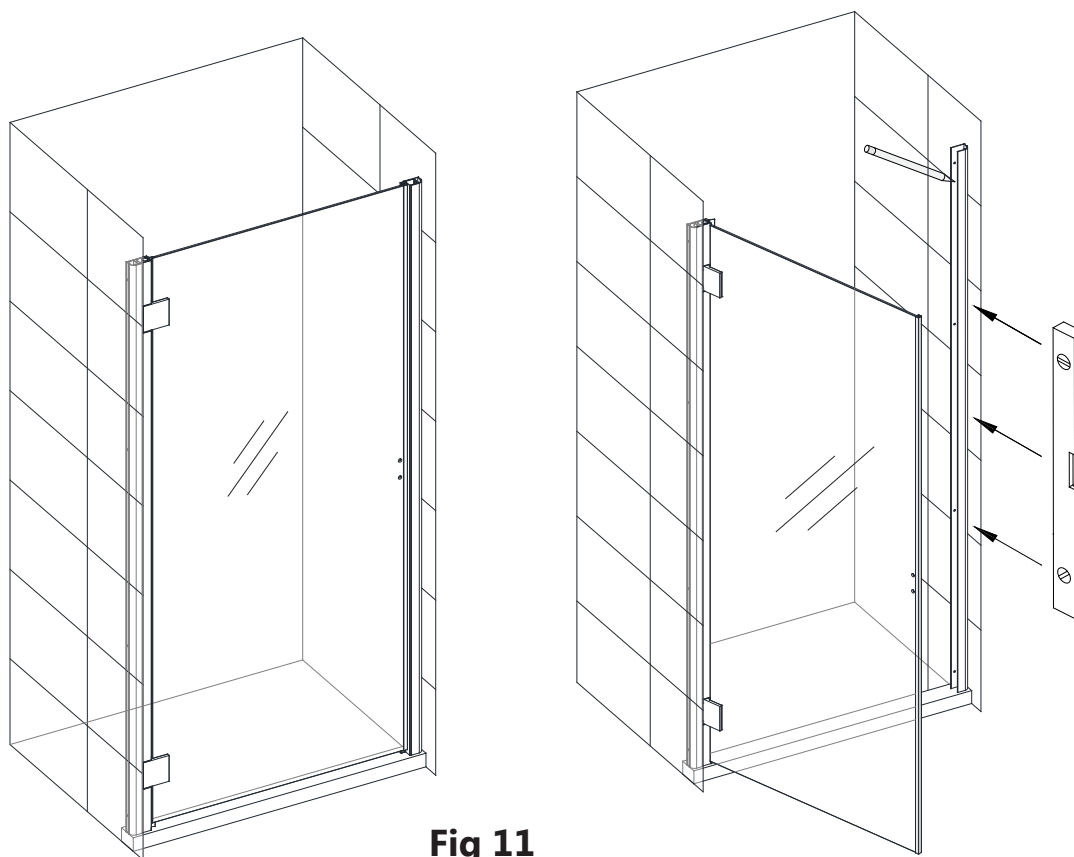
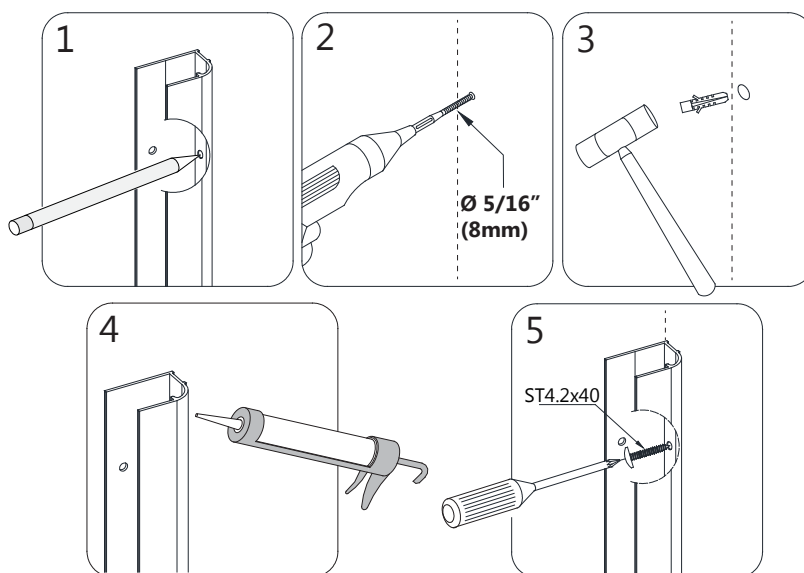

Fig 11
Fig 12
9. Open the door and remove the **Strike Profile (#09)** and leave the **Wall Profile (#10)** in position. Mark the holes for drilling through the holes in the **Wall Profile (#10)**. Drill **Ø5/16" (8mm)** holes and insert the **Wall Anchors (#16)** into the holes. Apply silicone to the back of the **Wall Profile (#10)** and around the screw holes. Attach the **Wall Profile (#10)** to the wall using the **ST4.2x 40 Truss Head Screws (#15)**. (**Fig 11 and Fig 12**)